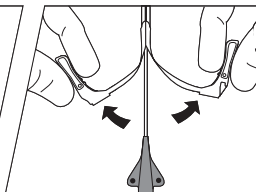

Figure 6
30. Withdraw peel-away sheath over catheter until sheath hub and connected portion of sheath is free from venipuncture site. Grasp tabs of peel-away sheath and pull away from the catheter (refer to Figure 6), while withdrawing from vessel until sheath splits down its entire length.